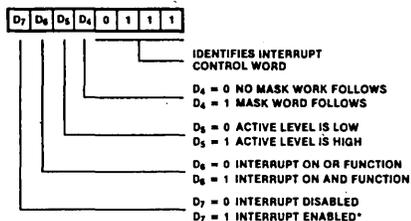

Figure 9. Interrupt Control Word
**Interrupt Control Word.** In Mode 3, handshake is not used. Interrupts are generated as a logic function of the input signal levels. The interrupt control word sets the logic conditions and the logic levels required for generating an interrupt. Two logic conditions or functions are available: AND (if all input bits change to the active level, an interrupt is triggered), and OR (if any one of the input bits changes to the active level, an interrupt is triggered). Bit D6 sets the logic function, as shown in Figure 9. The active level of the input bits can be set either High or Low. The active level is controlled by Bit D5.